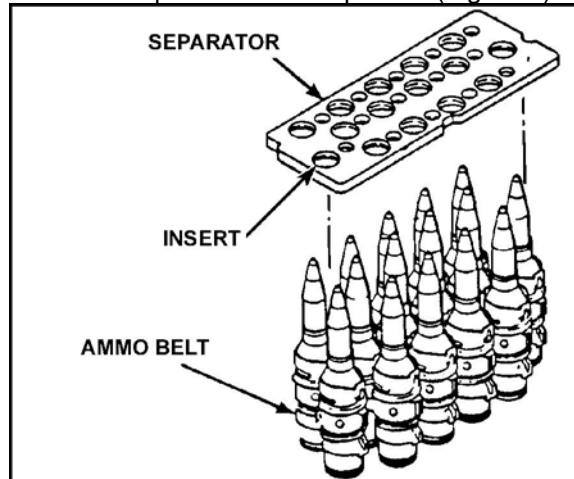

Figure 2. Separator.
- Form each belt into an "S" shape and use a separator (Figure 2).